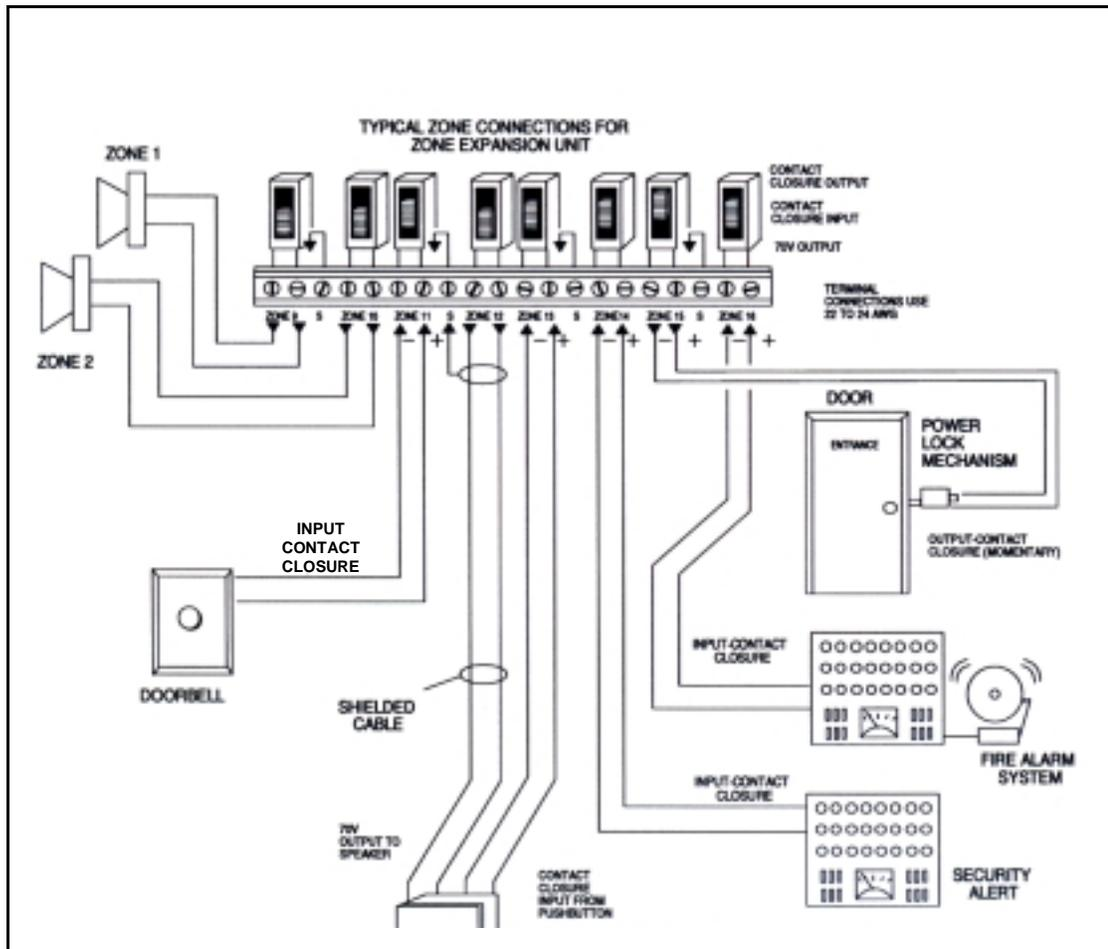

Figure 15. Contact Closure Zone Wiring to Controller
4. Make zone connections to Controller and any Zone Expansion Units. See Figure 15.